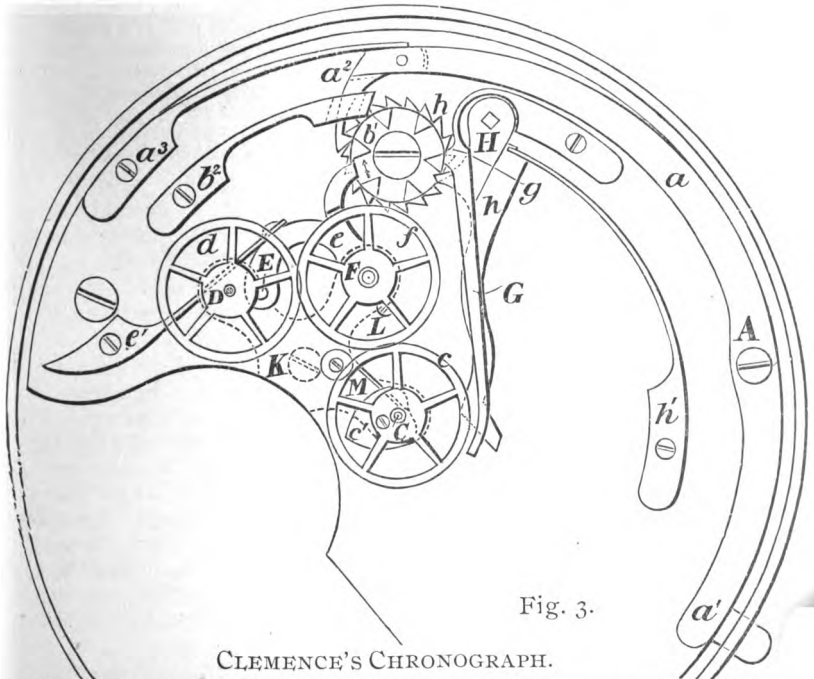
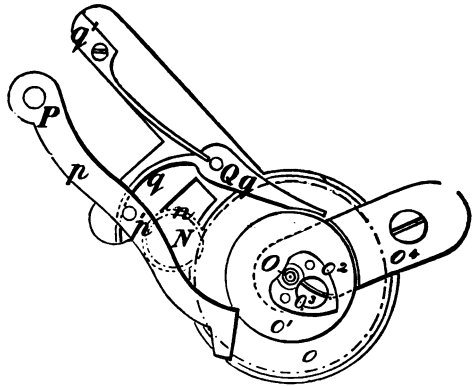

Fig. 3.
Fig. 4.—MINUTE RECORDER.
*A*, axis of lever *a*, which is actuated by the push piece at *a*1, and carries a click at *a*2. *B*, axis of castle-ratchet *b*, *b*1, *b*2 jumper. *C*, axis of serrated wheel *c* and heart-piece *c*1. This axis passes through the centre pinion and carries on the other end the seconds chronograph hand. *D*, axis of fourth wheel carrying serrated wheel *d*. *E*, axis of carriage *e* carrying serrated wheel *f*, and kept in contact with castle at *e* by spring *e*1. *F*, axis of wheel *f*. *G*, brake. *H*, axis of returning lever *h* held against castle by spring *h*1. *K*, bridge over chronograph work, removed and indicated by dotted lines. *L*, banking screw for *e*. *M*, thin spring bearing against arbor of chronograph hand to ensure steadiness. In Fig. 4, which is a view of the minute recorder work under the dial, *N* is the axis of *n*, a pinion on the third wheel arbor gearing with the wheel *O*, on the pipe of which are *o*1 brake disc and heart-piece *o*2 screwed to it; *o*3 is a flexible blade fixed to the heart-piece and pressing sufficiently against a groove formed in the pipe of the wheel *O* to carry the heart-piece round with the wheel. On the pipe of the heart-piece the minute recording hand is carried. *P*, axis of returning lever *p*. This axis is really a prolongation of the axis *H* in Fig. 3, consequently the seconds and minute hands are returned to zero concurrently. *Q*, axis of brake *q*1, which is kept from the disc by the spring *q*1 and brought to bear by a pin *p*1.
Fig. 4, which is a view of the minute recorder work under the dial, *N* is the axis of *n*, a pinion on the third wheel arbor gearing with the wheel *O*, on the pipe of which are *o*1 brake disc and heart-piece *o*2 screwed to it; *o*3 is a flexible blade fixed to the heart-piece and pressing sufficiently against a groove formed in the pipe of the wheel *O* to carry the heart-piece round with the wheel. On the pipe of the heart-piece the minute recording hand is carried. *P*, axis of returning lever *p*. This axis is really a prolongation of the axis *H* in Fig. 3, consequently the seconds and minute hands are returned to zero concurrently. *Q*, axis of brake *q*1, which is kept from the disc by the spring *q*1 and brought to bear by a pin *p*1.